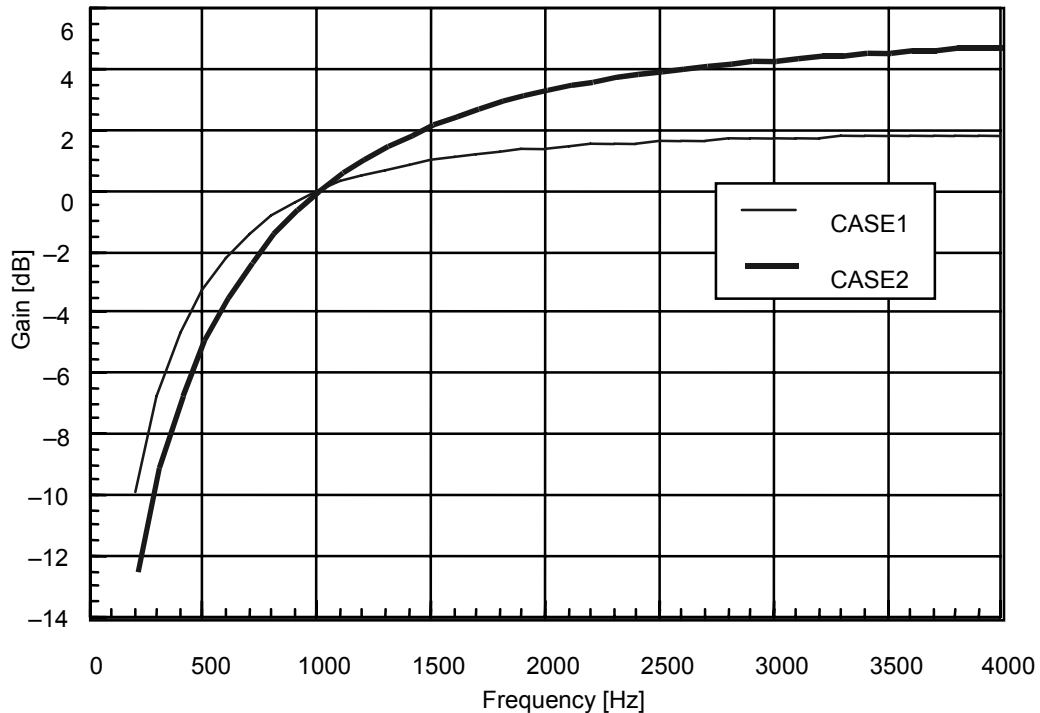

Figure 6 Frequency Response of Slope Filter
| Serial Port Digital Input/Output Setting Time | t_{M1} | — | CL = 50 pF | See Fig. 6 | 50 | — | — | ns |
- B1..... The type of slope filter select; 0/CASE1, 1/CASE2, refer to Figure 6.